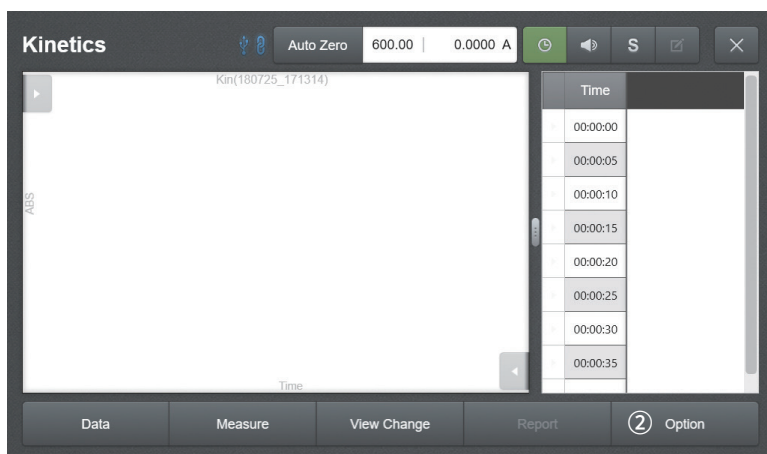

Fig. 6.10
2. [Fig. 6.10] Move to the ② **Option** and specify the measurement settings.